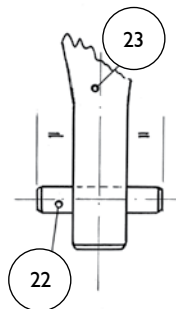

Fig. 10.08
- 4 Insert the small end of the end pin in the hole, and tap in until the sear-rod is exactly equidistant between the two ends of the sear-rod end pin (Fig. 10.08).
- 5 To ensure that the sear-rod (item 23) is exactly central on the sear-rod end pin, using a hard flat surface to work on remove the handle barreled bolt nut and tap the sear-rod end pin through the nut until it hits the face of the supporting surface.